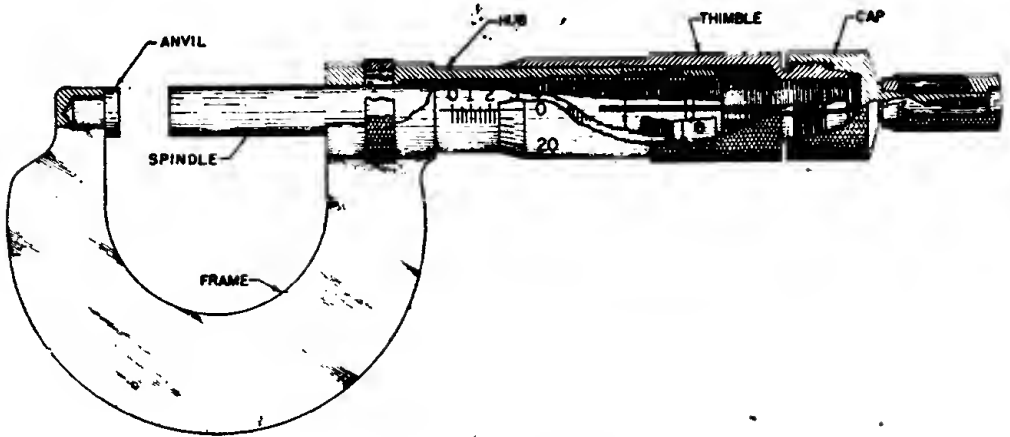

Figure 69. Micrometer.
b. PRINCIPLES OF OPERATION. A drawing of a micrometer is shown in figure 69. The screw has 40 threads per inch. Therefore, when the